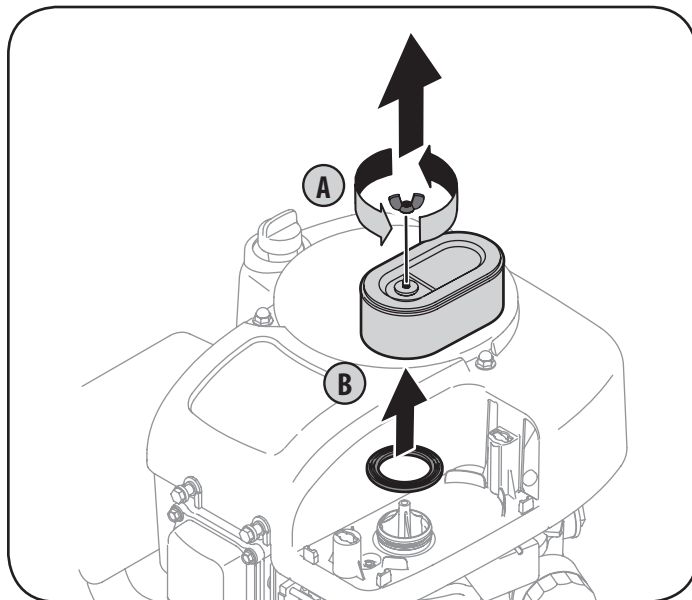

Figure 8
2. Remove thumb screw (A). See Figure 8.
3. Pull up and remove air filter and base seal (B). See Figure 8.